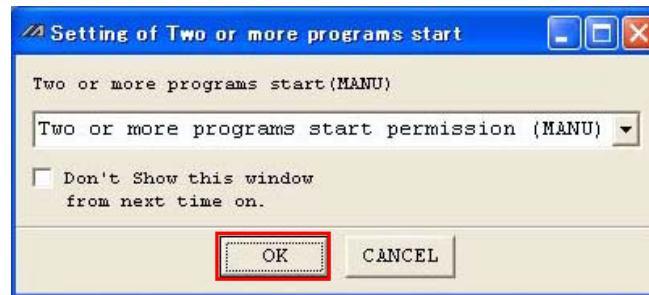

Fig. 1.22 Multiple Program Simultaneous Startup Permission/Prohibition Setting Window
- [5] After connection gets established, multiple program simultaneous startup permission/prohibition setting window (Fig. 1.22) opens. Set whether you prohibit or permit the simultaneous starting of multiple programs during the manual mode, and click **OK**.
If Don't Show this window from next time on is checked, connection will be established with the settings at the last connection time without displaying the screen in Fig. 1.22.
To remove this check, select the checkbox In Connect, Check Setting of Two or more programs start on the Environment Setup (Online) screen (Fig. 12.2) or Environment Setup (Offline) screen (Fig. 12.1). The screen in Fig. 1.22 will be displayed at the next startup time to remove the check.